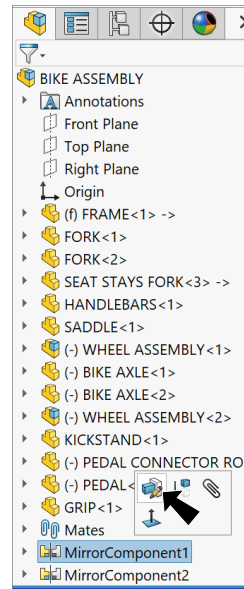

Fig. 35
Step 5. Click a **cylindrical face Grip** and a **cylindrical face of Handlebar**, Fig. 35.
Step 2. Click **MirrorComponent1**  in the Feature Manager and **Edit Feature**  in the content toolbar, **Fig. 35**.